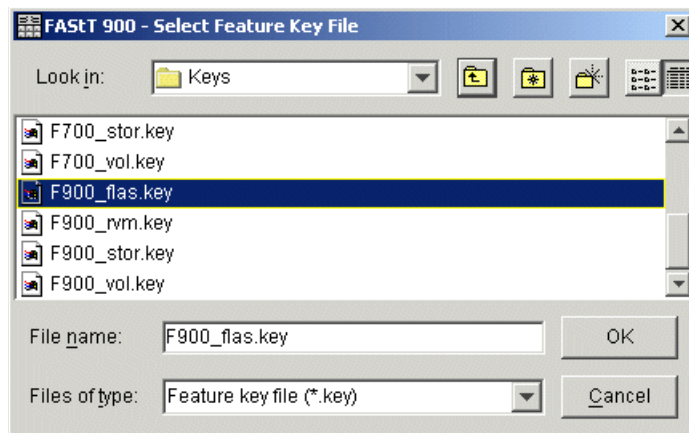

Figure 7-8 Select Feature Key File
1. From the Subsystem Management window, click **Storage Subsystem -> Features -> Enable**. The Select Feature Key File window opens (Figure 7-8).